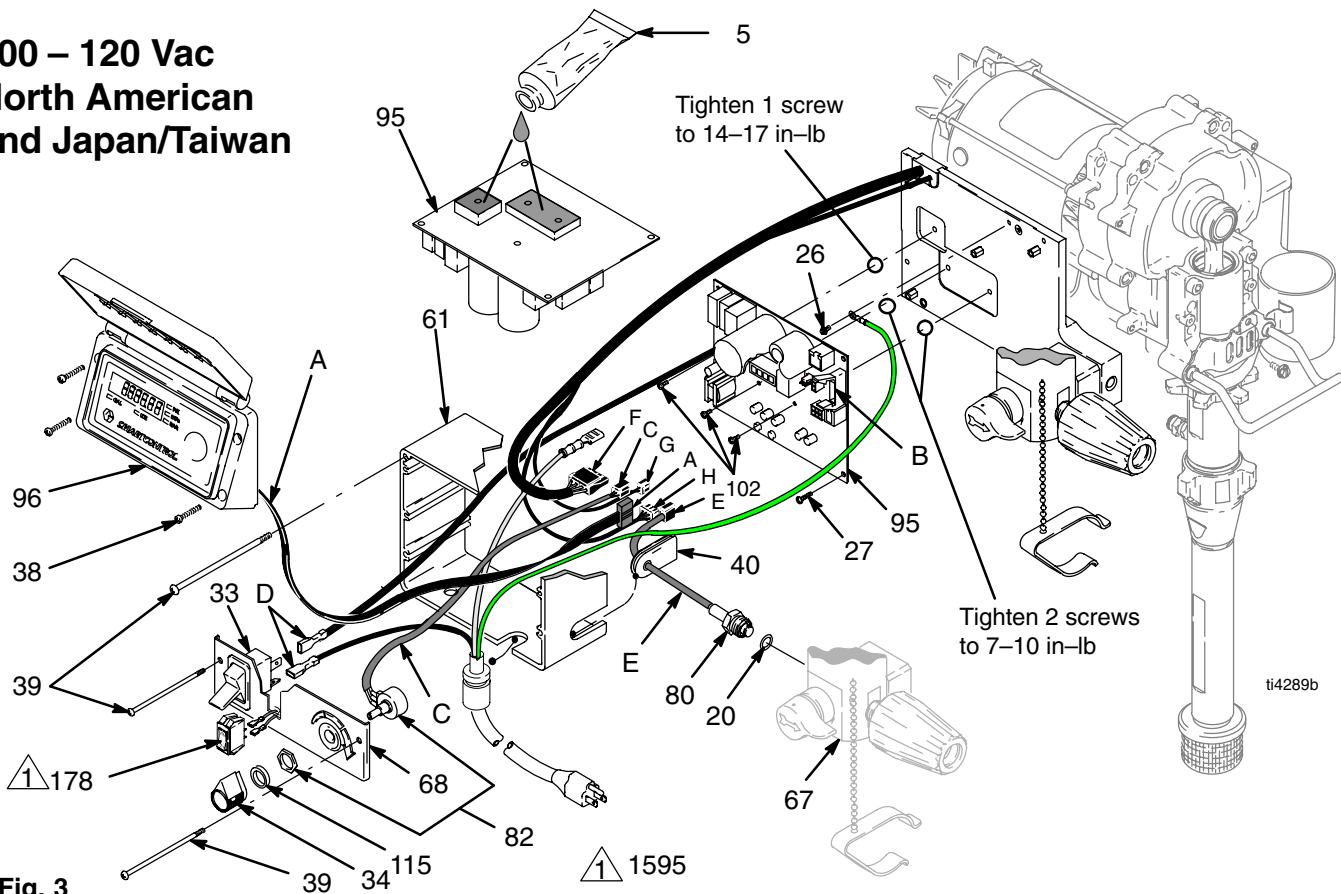

Fig. 3
- Fig. 3. Remove four screws (38) and cover (96).
- Disconnect display connector (A) from motor control board (95).
- Remove bottom two screws (39) and allow control panel (68) to hang down freely.
- Disconnect control board power lead(s) (D) from ON/OFF switch (33) and motor control board (95).
- Disconnect potentiometer connector (C) from motor control board.
- Disconnect 15/20A switch (178) (1595).
- Disconnect transducer connector (E) from motor control board.
- Remove top two screws (39) and control box (61).
- Remove five screws (27), three screws (102) and motor control board.
- Fig. 3. Apply small amount of thermal compound 110009 (5) to shaded component areas on rear of motor control board (95).
- Install motor control board (95) with five screws (27). Torque to 9–11 in-lb (1.02 – 1.24 N-m). Install and torque three screws (102) to values in Fig 3.
- Install control box (61) with top two screws (39).
- Connect transducer connector (E) to motor control board.
- Connect 15/20A switch (178) (1595).
- Connect motor control board power lead(s) (D) to ON/OFF switch (33).
- Connect potentiometer connector (C) to motor control board.
- Install control panel (68) with two screws (39).
- Connect display connector (A) to motor control board.
- Install cover (96) with four screws (38).
2. Fig. 3, 4 or 5. Remove four screws (38) and cover (96).
3. Disconnect potentiometer connector (C) from motor control board (95).
4. Remove pressure control knob (34) with a hex wrench.
5. Remove gasket (115), nut and potentiometer (82) from control panel (68).